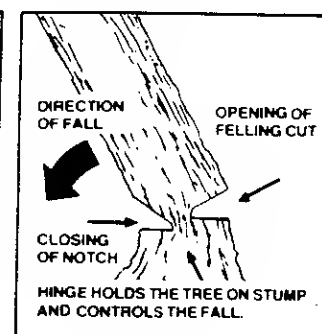

Figure 22
- Leave enough uncut wood between the felling cut and the notch to form a hinge. Figure 22.